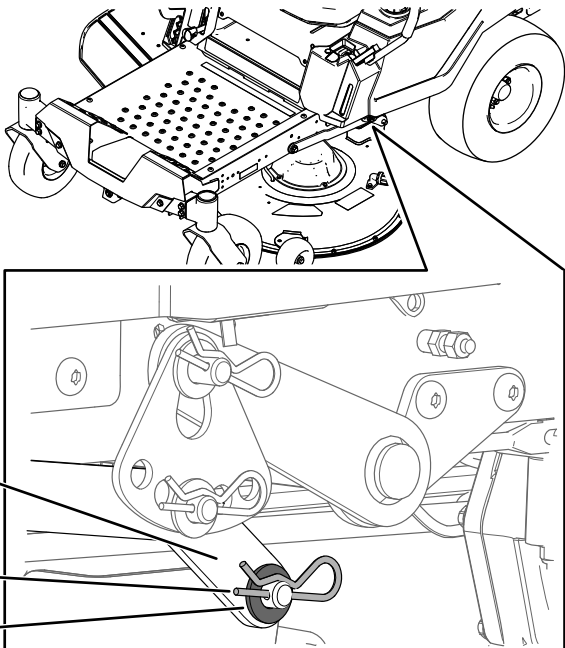

**Figure 65**
4. Remove the hairpin cotter from the front support rod, and remove the rod from the deck bracket (Figure 65).
8. Attach the front support rod to the mower deck with the clevis pin and hairpin cotter (Figure 65).